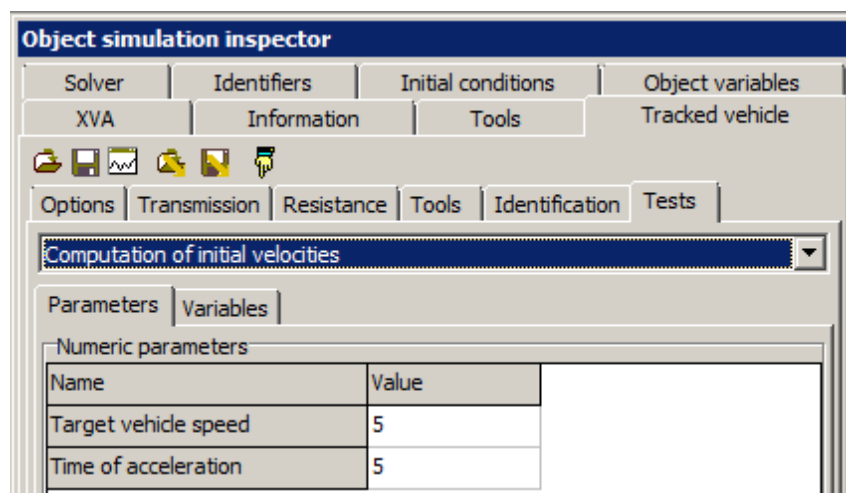

Figure 2.17. Test parameters
- Select the corresponding type of the test; assign the target speed and time interval for acceleration, Figure 2.17.